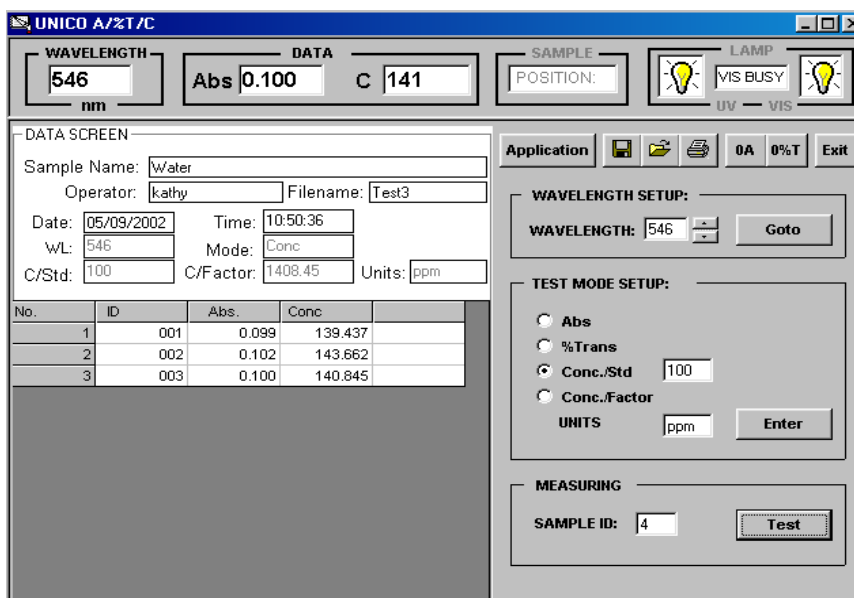

Figure-21 Test Results of **Concentration/Standard Mode**
Step 9: Select the proper port in the pop-up window, push the OK button, and then press The **UNICO 2100+** will initialize (Fig. 10) and go to the main screen (Figure-11 to Figure-21).
Step 7A: Place your sample(s) in the Sample Compartment and click the **TEST** button for each sample to be measured. **Absorbance** and the **Concentration** of the samples will be displayed in the **Data Table** (Figure-21).